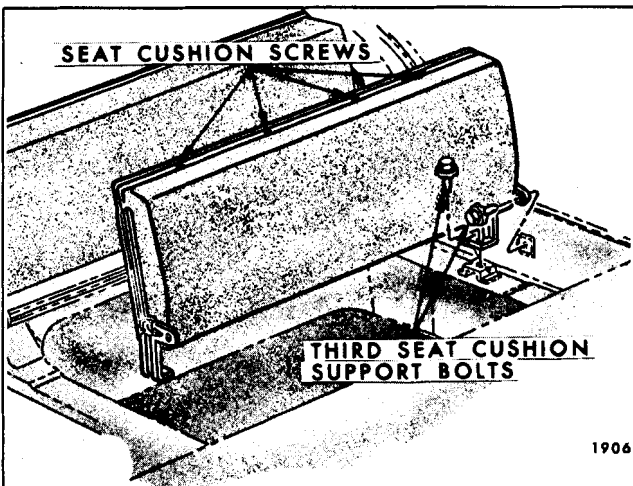

Fig. 14-64-Folding Third Seat Cushion - "A" Body Three-Seat Styles
1. Lift third seat cushion to half raised position or approximately vertical to floor pan (Fig. 14-64).
2. Remove four seat cushion screws from rearward edge of cushion (Fig. 14-64).
1. Lift third seat cushion to a half raised position or approximately vertical to floor pan (Fig. 14-64).
2. Remove two bolts at each side of seat securing supports to body, then, remove seat cushion, panel assembly and supports from body and place on a clean, protected surface (Fig. 14-64).